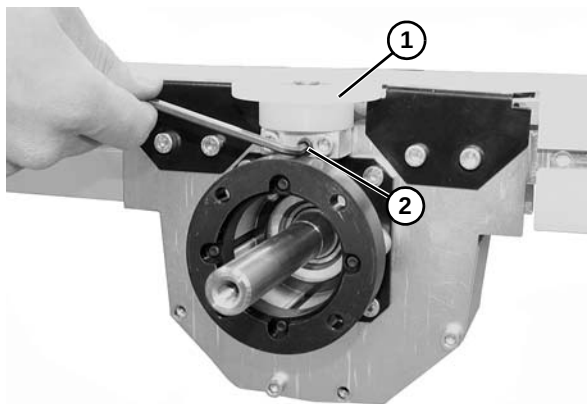

Figure 32
9. Install belt hold down wheel (**Figure 32, item 1**) and tighten set screw (**Figure 32, item 2**).